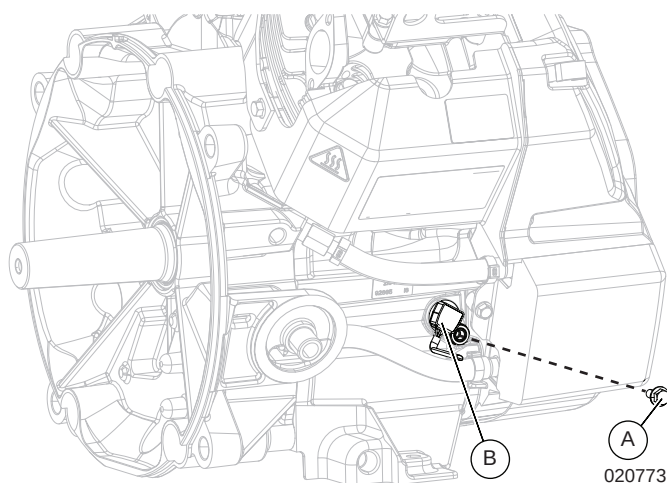

Figure 6-17. Remove Screw Fastening Switch
1. See Figure 6-17. Remove screw (A) fastening the oil level switch (B).